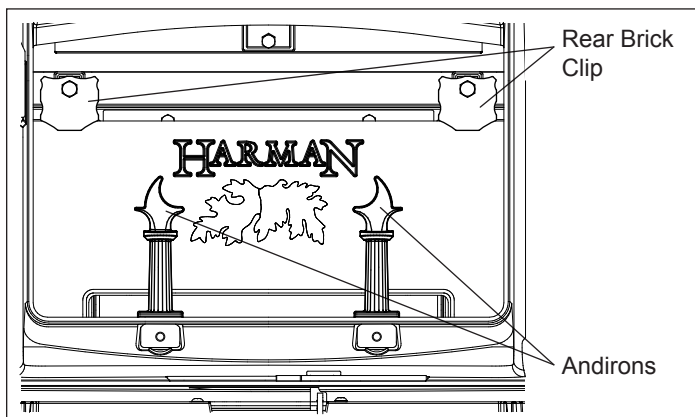

Figure 2
2. Remove the (2) andirons along with (2) rear brick clips located at the top corners of the center brick. Figure 2.